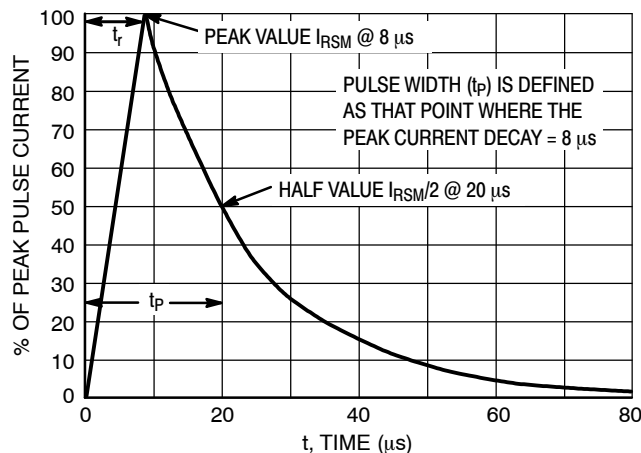

Figure 5. 8 X 20  $\mu$ s Pulse Waveform
4. Surge current waveform per Figure 5.